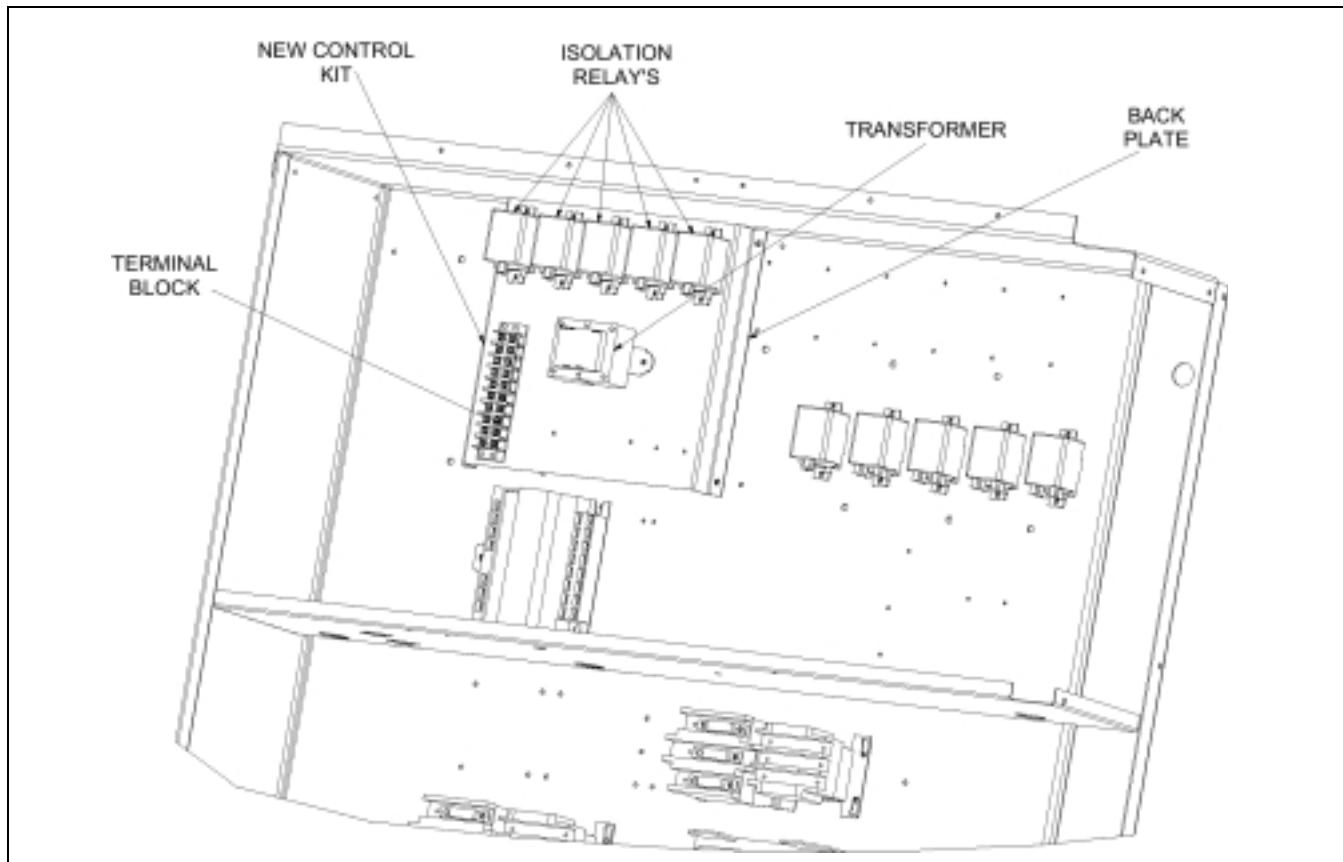

FIGURE 4 : NEW LOW VOLTAGE CONTROL COMPONENTS
This kit contains all necessary electrical components, sheet-metal parts, and wires to replace the W7400 module and the T7400 thermostats used in all Constant Volume 30-40 Ton Millennium Style A units. The kit contains the wiring needed for all options including CV W/ Economizer, CV W/O Economizer, Optional Gas Heat, and Optional Electric Heat. Figures 1 and 2 illustrate the location of the Millennium controls and the location of the W7400 in the control section. The new low-voltage electric box will be as shown in Figure 4.
9. Locate the new control plate in box-electric in the location shown in Figure 4.